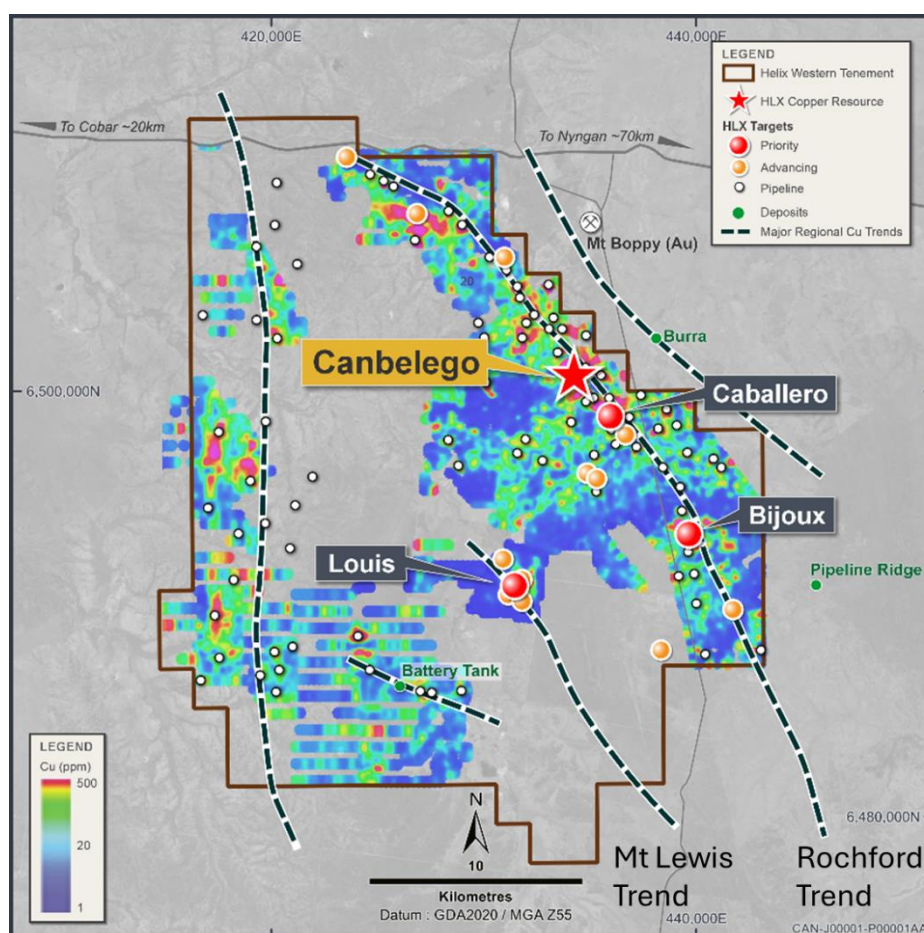

Figure 1 – Location of the Bijoux copper target, 9km south of the Canbelego project.
The Rochford Copper Trend is a 30km trend with historical mines and copper prospects (**Figure 1**). The Company has undertaken an extensive geochemical sampling program over the Rochford Trend which generated significant copper (Cu) geochemical anomalies³. One of these is the Bijoux Prospect, where a 1.6km x 0.6km copper anomaly was defined by extensional auger sampling and where follow-up reverse-circulation (RC) drilling was undertaken in November 2023.